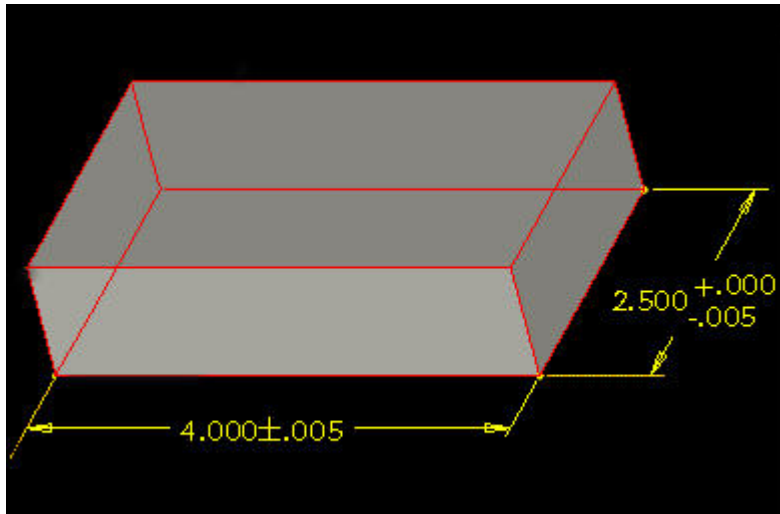

Fig. 18: Part with both unilateral and bilateral tolerances.
0.000/ - 0.010" the machinist would either shoot for 2.495" (the safest place to be - in the middle of the tolerance range) or if he was a nice guy would shoot for 2.499" in an attempt to get as close to the dimension the engineer specified. There was more risk in being close to the limit but with a good machine and a skilled machinist the level of risk was low. I'm sure you are thinking at this point that with modern CNC machines it should be even easier to achieve whatever dimension the engineer desires. In some regards this is true. We can "comp" (use cutter compensation) a CNC machine 0.0005" one way or the other and it will do it handily. But the real difficulty with unilateral tolerances lies in the programming of the part. Nearly all CNC machines these days are programmed from a 3D CAD model using CAM software. The programmer chooses edges or surfaces on the model to drive toolpaths. Figure 18 shows a basic rectangle with one side having a bilateral tolerance and the other having a unilateral tolerance.
This is a pretty common example. In this case, the easiest way to program and manufacture this part is with a profile cut from the top of the part which establishes both the 4.000" and 2.500" dimensions at the same time with the same cutter. The CNC program by default will drive the tool at the nominal size of the CAD model. It will create a rectangle that is 4.000" x 2.500". But the sides with a 2.500" dimension will be practically out of tolerance as programmed since we cannot be on the plus side of nominal at all. And with the typical small amount of cutter deflection outward, the 2.500" dimension will likely be out of tolerance. This makes the programming of the part take much longer as the programmer will have to compensate for this with manual adjustments to the program, adjustments to CAM parameters or a separate program with tool paths for each side. The set-up of the part on the CNC machine may also take longer if the machinist needs to apply cutter compensation in order to bring the part closer to the middle of the tolerance zone. In an extreme example, if you had a tolerance of + 0.005"/- 0.000" on the 4.000" dimension, it would be virtually impossible for either dimension to be in spec without major tweaking to the program. This brings up the other point about unilateral tolerances. Most CNC shops want to run the dimensions in the safest range to minimize the chance of scrap. So in the case of the part in Fig. 18, they would likely try to run the 2.500" dimension at 2.4975" which is exactly in the middle of the + 0.000"/ - 0.005" range. This somewhat defeats the purpose of specifying a unilateral tolerance in the first place. It would be easier for everyone involved if the engineer put a symmetric bilateral tolerance at 2.500" or 2.497" because more than likely it is what will be delivered anyway.